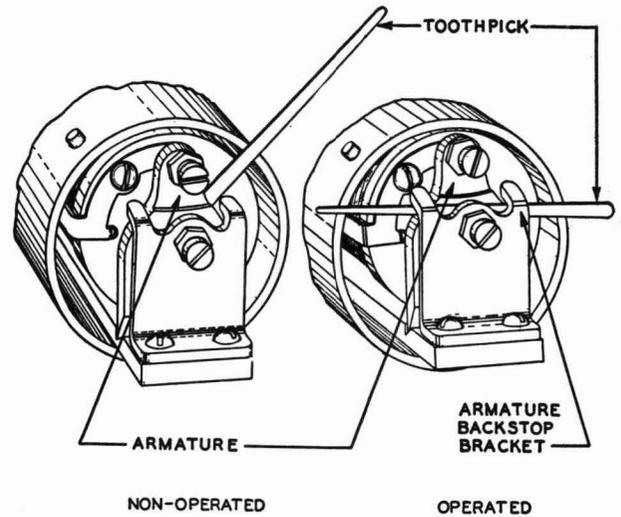

Fig. 10—Blocking 118-type Relays
3.12 **118-type Relays:** Fig. 10—Block relays nonoperated by inserting a toothpick between the armature and the core. Block relays operated by inserting a toothpick between the armature backstop bracket and the armature.